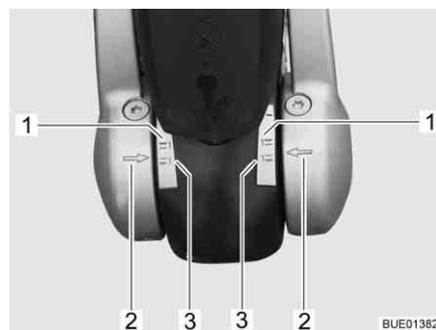

Fig. 200 Display friction pads, left and right
- If the arrows on the pressure pad (Fig. 200,2) point to or below the green marking (Fig. 200,3), the friction pads are brand new.
- If the arrows on the pressure pad point to within the marked areas (Fig. 200,1 and 3), then the friction pads are slightly worn.
- If the arrows on the friction pad point to or above the red marking (Fig. 200,1), the friction pads are worn out. Replace the friction pads.